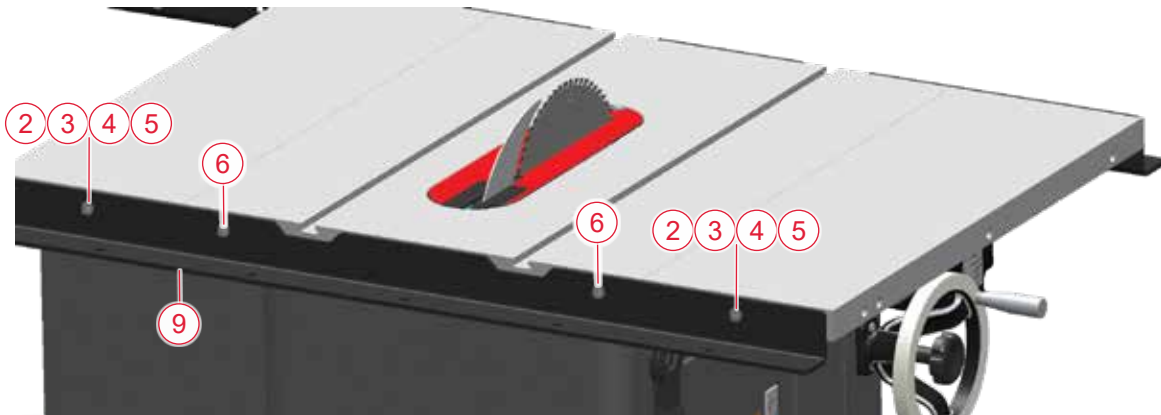

Fig. 4
**Rear Rail:** You install the rear rail (9) like you installed the front rail, except that you will leave the bolts for the rear rail a little loose until you install the extension table; it may be difficult to position the extension table between the rails if both rails are tightened too much. The rear rail is attached to the main table by two M8 x 25 (6) countersunk socket head bolts (Fig. 4). Position the rear rail along the back of the table with the cut-outs at the top of the rail centered on the miter gauge slots in the table. Thread the bolts into the holes and hand-tighten.
Mount the rear rail to each extension wing using two M8 x 35 (2) countersunk socket head bolts (the longer bolts), two M8 washers (3), two M8 lock washers (4) and two M8 hex nuts (5) for each of the holes, as shown (Fig. 4).